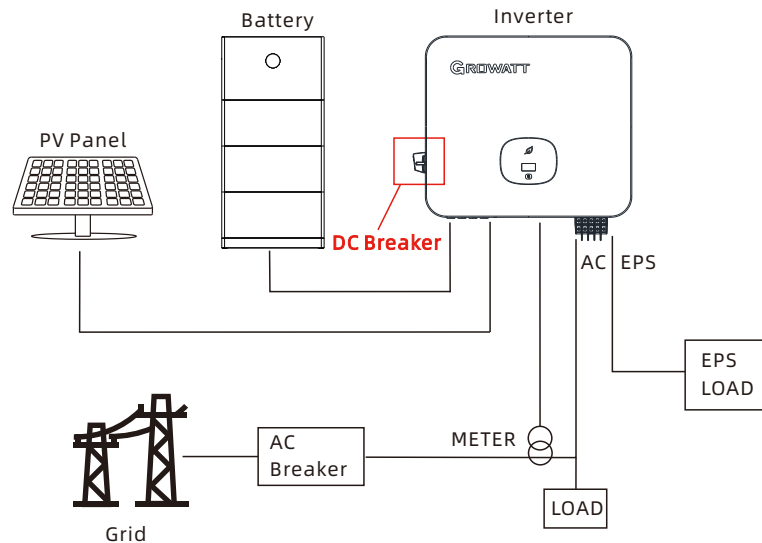

Figure 5.1 System block diagram
Step 2: Turn on the DC switch of the inverter(Figure 5.1).
Step 3: Turn on the circuit breaker connecting the inverter to the grid(Figure 5-1).
- Step 1: Turn off the circuit breaker connecting the inverter to the grid(Figure 5.1).
Step 2: Turn off the DC switch of the inverter(Figure 5.1).